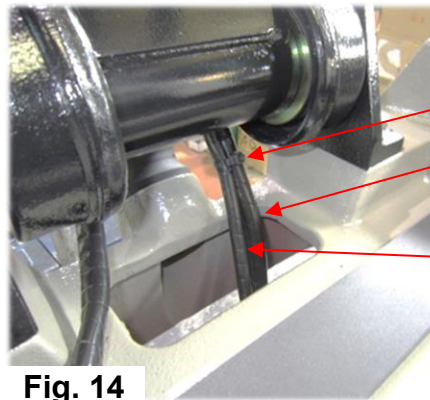

Fig. 14
- 11) Use wire ties to secure the new breather assembly to the hydraulic hose while ensuring enough slack is left so there is no tension to the breather assembly when the handle is moved from the stowed and operation positions, (Fig. 14).